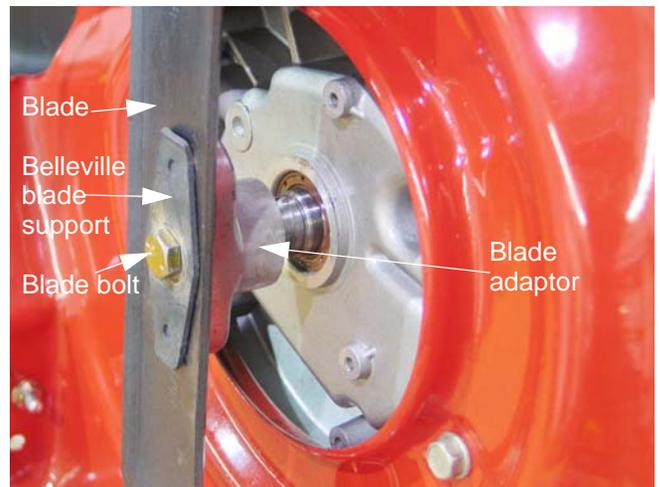

Figure 2.14
- 6. If the blade is removed for any reason, make a visual inspection of all blade mounting hardware. See Figure 2.14.